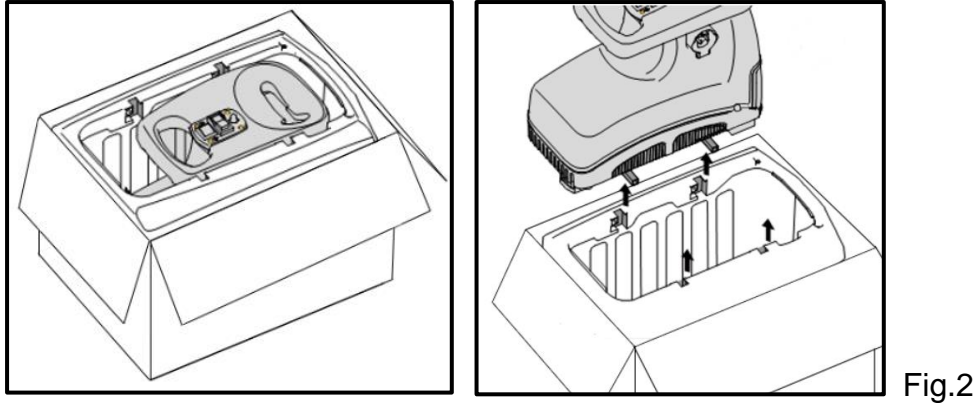

Fig.2
1. Take all accessories out of collection box, then take the motor unit out of the package. Be sure four protruding supports in the bottom of the motor unit pass through four notches in the upper face of the base frame. (Fig. 2)